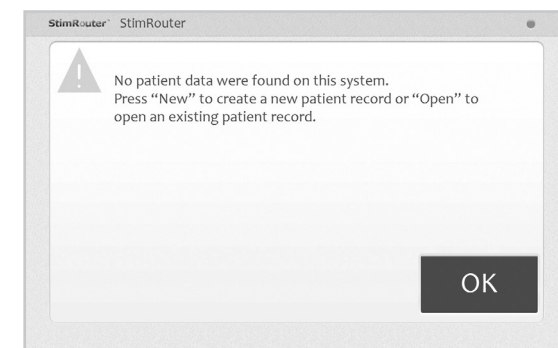

Figure 8-1: Unassigned system detected
3. If the patient's E-EFC is unassigned, then the software should automatically prompt that no patient data was found on the system. Press the "OK" button. See Figure 8-1.
3. If the E-EFC is unassigned, then the software should automatically prompt that no patient data was found on the system. Press "OK". See Figure 8-1.